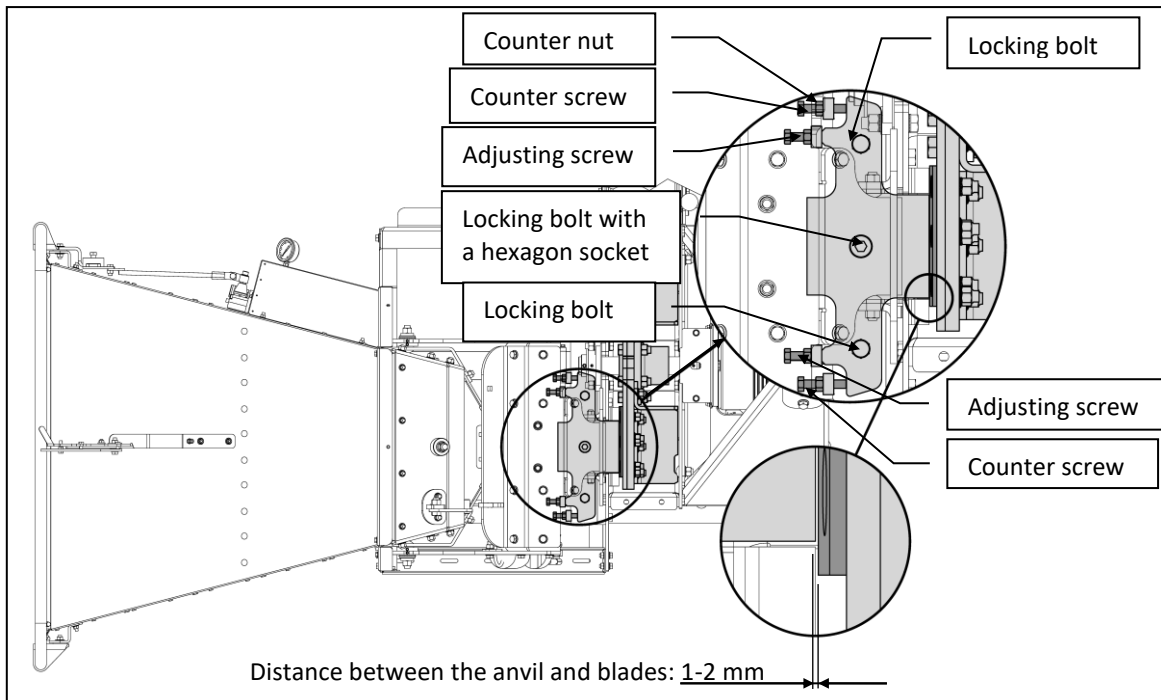

Figure 24
The easiest way to adjust the bottom anvil is as follows (see Figure 24):
3. The anvil can then be adjusted by tightening the set and counter screws (see Figure 24). Read more about adjustment below.
Once all the blades have passed the anvil, it is recommended that you run the rotor one more time to ensure that the anvils are completely clear of the blades. If the setting is satisfactory, torque the three bolts that hold the anvil clamped to the boom during operation. In addition, the set screws, counter screws and their lock nuts must also be tightened (see Figure 24) so that the anvil is completely locked in all directions.